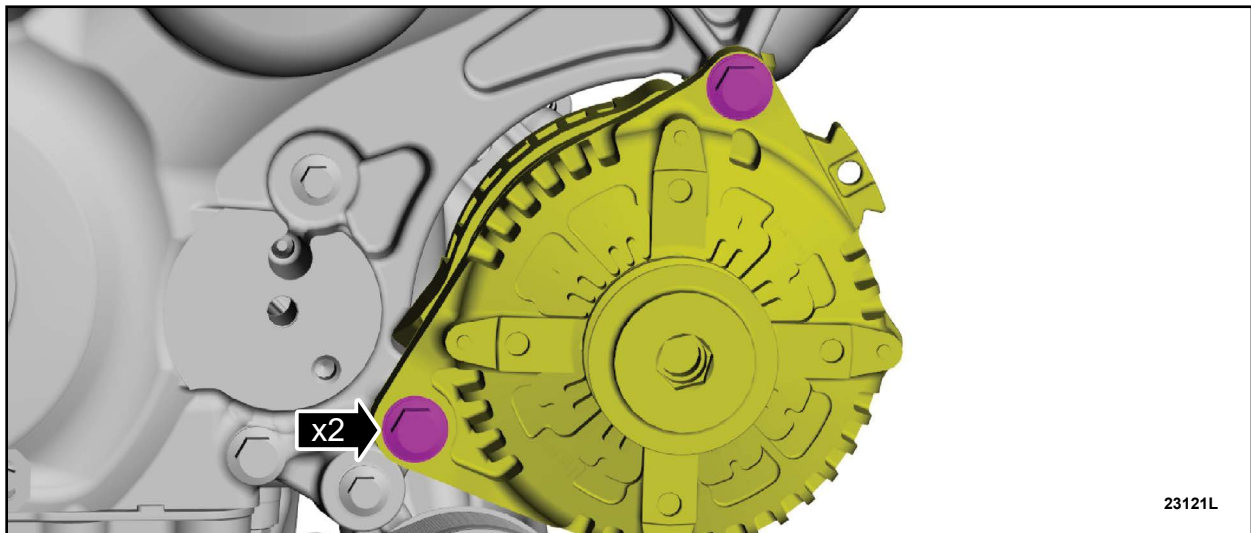

FIGURE 10
23. Remove the bolts and position the generator aside. See Figure 10.